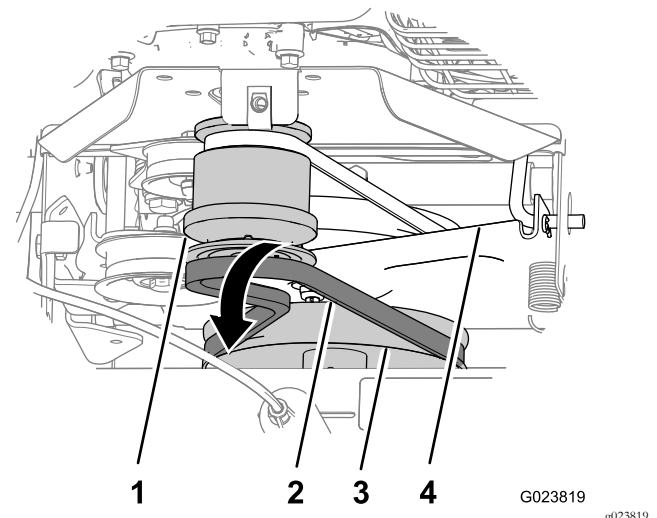

Figure 40
3. Slip the belt forward over the forward groove of the engine pulley (Figure 40).
4. Slip the belt off of the broom-gearbox pulley, move the belt rearward between the pulley and the traction-control bracket, and remove the belt from the machine (Figure 40).
1. Align the replacement belt between the pulley and the traction-control bracket (Figure 40).
2. Slip the belt onto the groove at the bottom of the broom-gearbox pulley (Figure 40).
- Slip the belt onto the forward groove of the engine pulley (Figure 40).